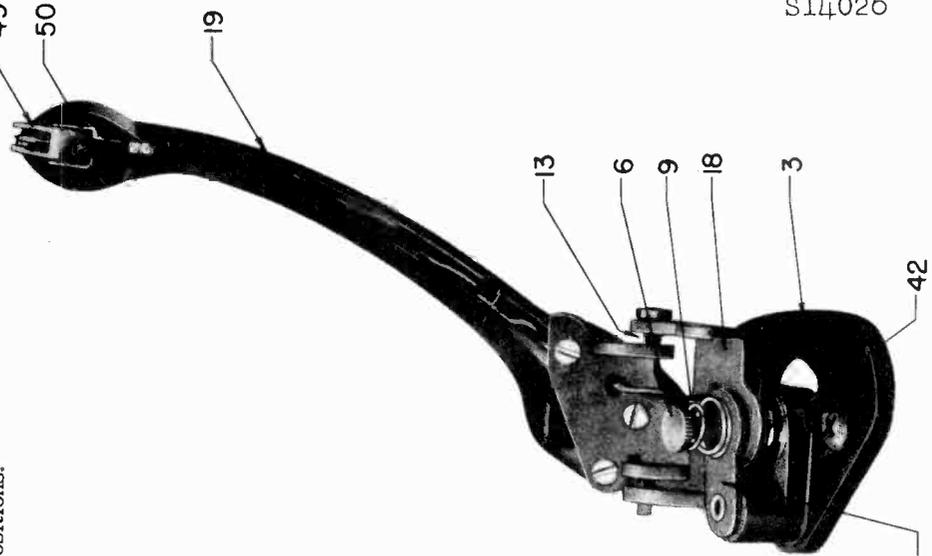

Fig. 6 Tone Arm & Hinge Assembly
The tone arm height adjustment determines vertical rise of the tone arm. If the tone arm does not rise sufficiently it will not play a full stack of twelve records. (See Fig. 6) On the other hand, if the tone arm raises too high it may hit the records resting on the record shelf. Set the tone arm height adjustment screw (6) so that the needle clears twelve unwarped records on the turntable. The tone arm housing must not hit the under side of the record shelf when the changer is cycled after adjustment.
The tone arm hinge adjustment must be made in the following manner. (See Fig. 6) Insert an Allen wrench into special set screw (13) and hold it in this position. With a hex head wrench loosen the hex nut around this set screw. Then tighten set screw to a point where the tone arm moves freely in the vertical position but still does not have any lateral motion. Hold the set screw (13) firmly in this position with the Allen wrench, and then tighten the hex head nut.